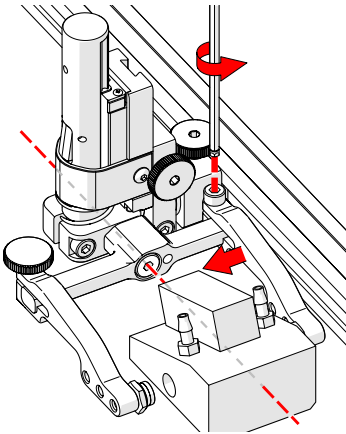

Fig. 124 - Adjust inner arm
4. Position the wedge on the inner probe holder arm (Fig. 124).
TIP: The probe holder yoke can accommodate many different probe and wedge sizes of varying widths. It is best to centre the wedge with the yoke's pivot axis. This can reduce wedge 'rocking' when scanning. Position the inner probe holder arm accordingly (Fig. 124) using the supplied 3 mm hex driver (Fig. 68).